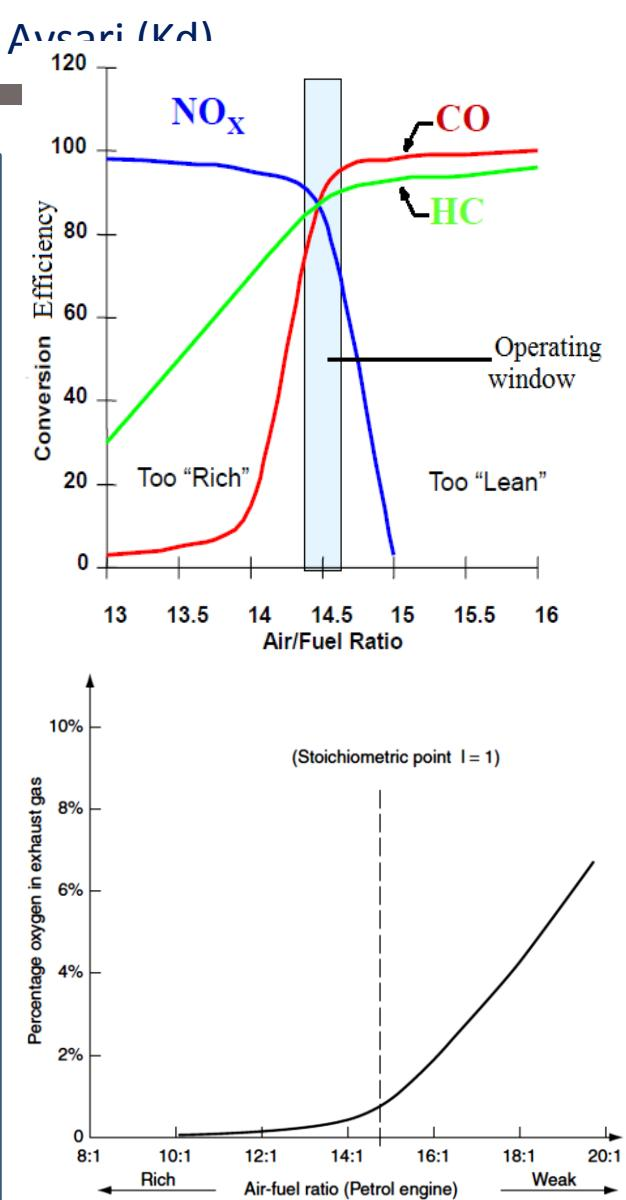

Fig. 5.26 Oxygen in exhaust versus air-fuel ratio
- Figure 5.26 shows the relation between the oxygen content of the exhaust gas and the air–fuel ratio of the mixture entering the combustion chambers of the engine.
- The oxygen content of exhaust gas varies from zero in a rich mixture, to about 10% in a weak mixture, as shown in Fig.5.26.